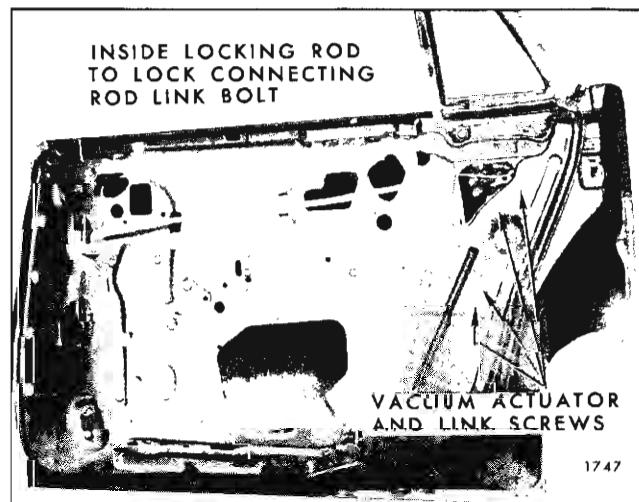

Fig. 1D81—Vacuum Lock Actuator, and Link Assembly Removal
3. Remove screws securing glass run channel outer strip assembly to door outer panel return flange (Fig. 1D76) and remove strip assembly.